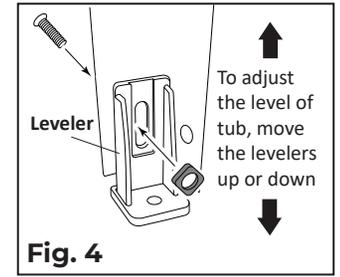

Fig. 4
4. Mount leveler to each leg. Note that there are two holes in the bottom of the leg at different locations. Select the proper hole that will allow access to the screwhead after the tub is in the desired location. Attach leveler with 1/4 in. (0.63 cm.) bolt and nut and hand tighten it. **DO NOT** over-tighten it in this step (see Fig. 4).